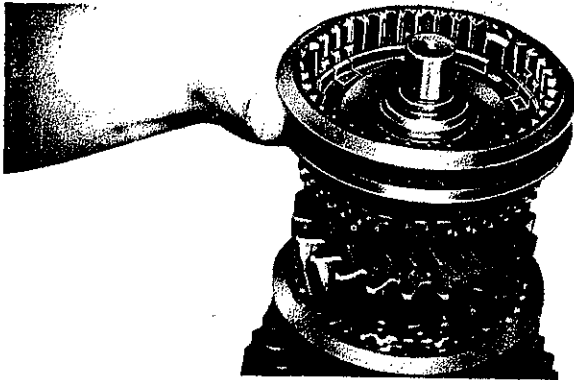

Fig. 39
19. Mount synchronizing member (Fig. 38) and sliding sleeve (Fig. 39) as described under paragraph 13 and 14.